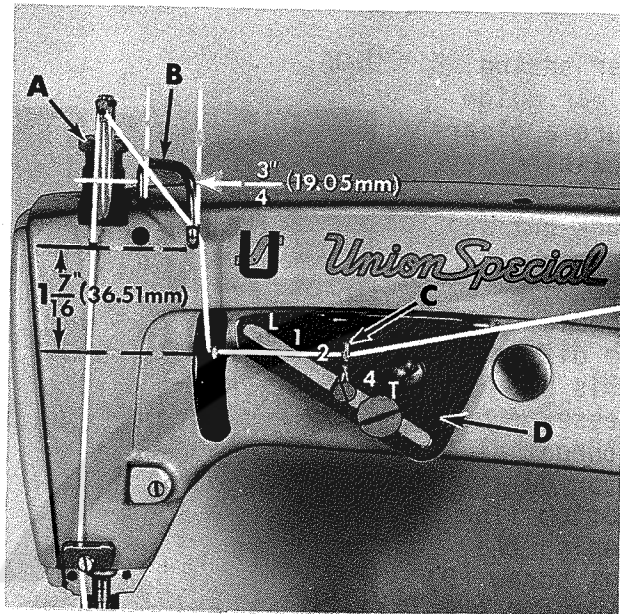

Fig. 14
Adjust presser spring regulating screw (A, Fig. 14) so that it exerts only enough pressure on the presser foot to feed the work uniformly when a slight tension is placed on the fabric. This is the knurled screw, located directly behind the needle bar in the head of the machine. Turning it clockwise increases the pressure, counterclockwise acts the reverse.
With needle bar at the top of its stroke, set needle thread take-up wire (B, Fig. 14) so its lower extended surface is $1 \frac{7}{16}$ inch (36.51mm) above centerline of needle lever thread eyelet hole and $\frac{3}{4}$ inch (19.05mm) across the centerlines of its vertical surfaces (See Fig. 14).
Adjust looper thread tension to a minimum required for controlling the looper thread (light). Set thread index eyelet (C, Fig. 14) at "3" on the adjusting plate (D). Changing the needle thread tension only, balance the stitch so that when 6" of sewn seam are raveled back, the needle thread is approximately as long as the looper thread. A 1" difference in lengths is permissible.